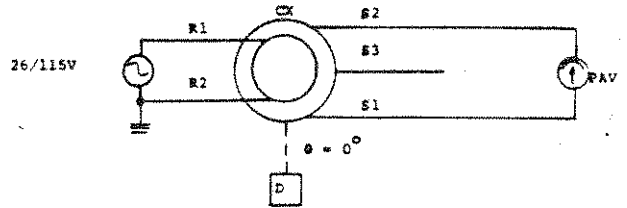

Figure 7-4. Phase Shift Test (CX)
- a. With the CX still mounted in the dividing head, set up equipment as shown in figure 7-4.